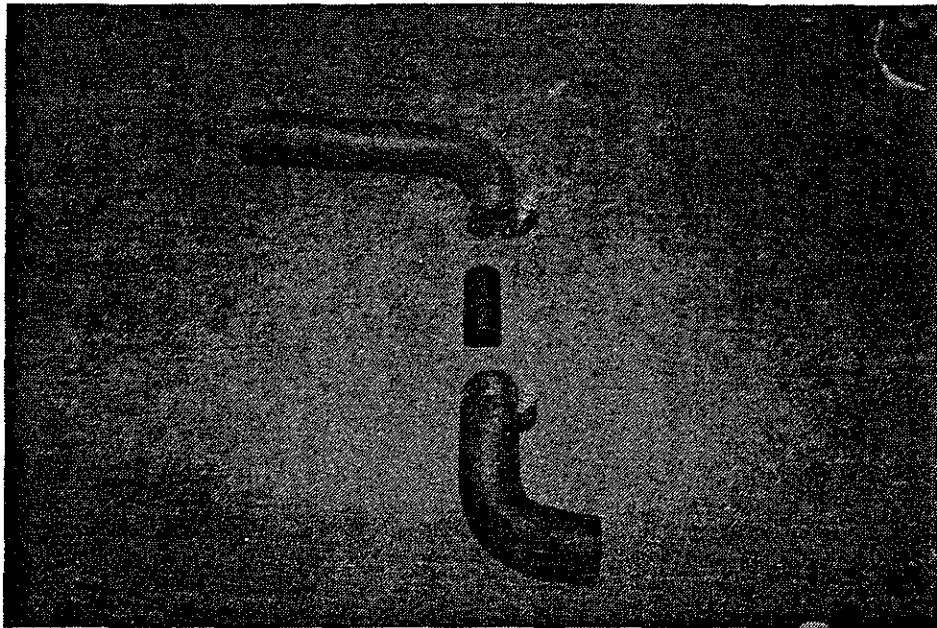

FIGURE 6
8. Place the furnished 3/4" O.D. x 1-1/2" aluminum tube (P/N 38630-1.5) inside the hose and secure with the two clamps provided (P/N HC-4210) as shown in Figure 6.